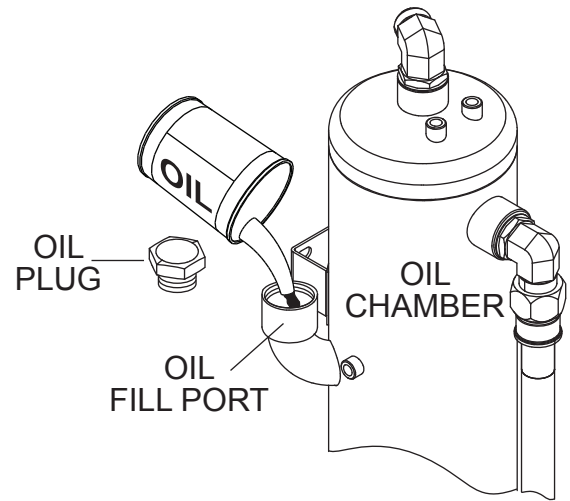

Figure 13. Adding Oil (Oil Chamber)
4. If the compressor oil level is low (Figure 12C), remove the compressor oil fill plug (Figure 13) and fill to a safe operating level (max) as indicated by the sight gauge (Figure 12A).